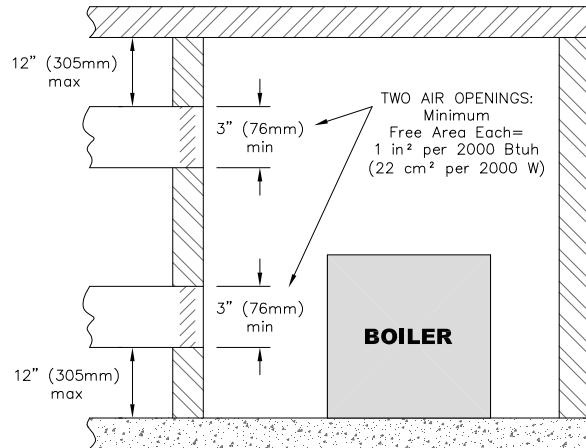

Figure 1.7: Air Openings – All Air from Outdoors through Horizontal Ducts
- Where communicating with the outdoors through horizontal ducts, each opening shall have a minimum free area of 1 in² per 2000 Btu/hr (22 cm² per 2000 W) of total rated input for all appliances in the space. See Figure 1.7.